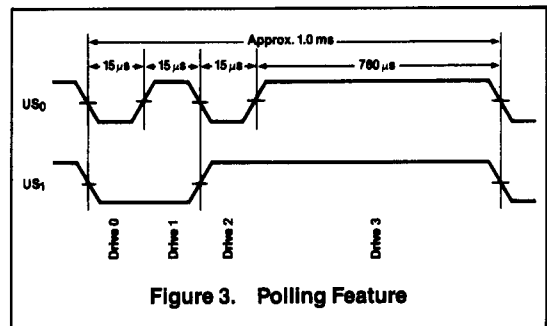

Figure 3. Polling Feature
After reset has been sent to the FDC72C65/FDC72C66, the unit select lines  $US_0$  and  $US_1$  will automatically go into a polling mode. In between commands (and between step pulses in the Seek command) the FDC72C65/FDC72C66 polls all four FDDs looking for a change in the ready line from any of the drives. If the ready line changes state (usually due to a door opening or closing), then the FDC72C65/FDC72C66 will generate an interrupt. When status register 0 (STO) is read (after Sense Interrupt Status is issued), not ready (NR) will be indicated. The polling of the ready line by the FDC72C65/FDC72C66 occurs continuously between commands, thus notifying the processor which drives are on or off line. Each drive is polled every 1.024 ms except during the Read/Write commands. When used with a 4 MHz clock for interfacing to minifloppies, the polling rate is 2.048 ms. See figure 3.